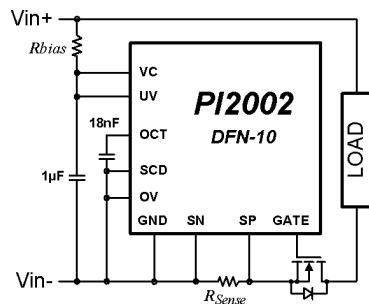

Figure 22: PI2002 (10L-TDFN package) in low side disconnect switch application
1. A PI2002 with a suitable MOSFET for -48V power source should be used and configured as shown in Figure 22. The VC is biased from the return line through a bias resistor.